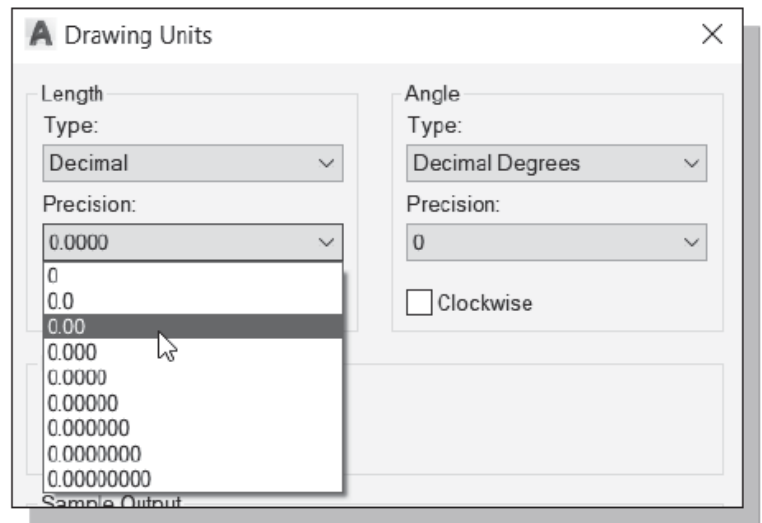

Figure 7
3. Set the **Precision** to two digits after the decimal point as shown in Figure 7.